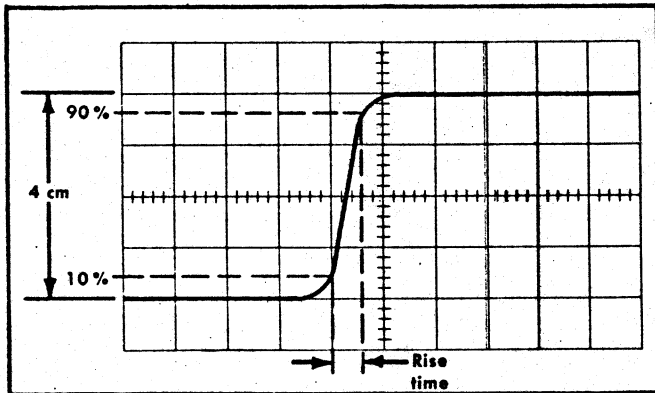

Fig. 5-1. Measuring positive going pulse risetime.
g. Check the risetime of the display (see Fig. 5-1); it should measure 6.5 nsec or less, from the 10% point to the 90% point.